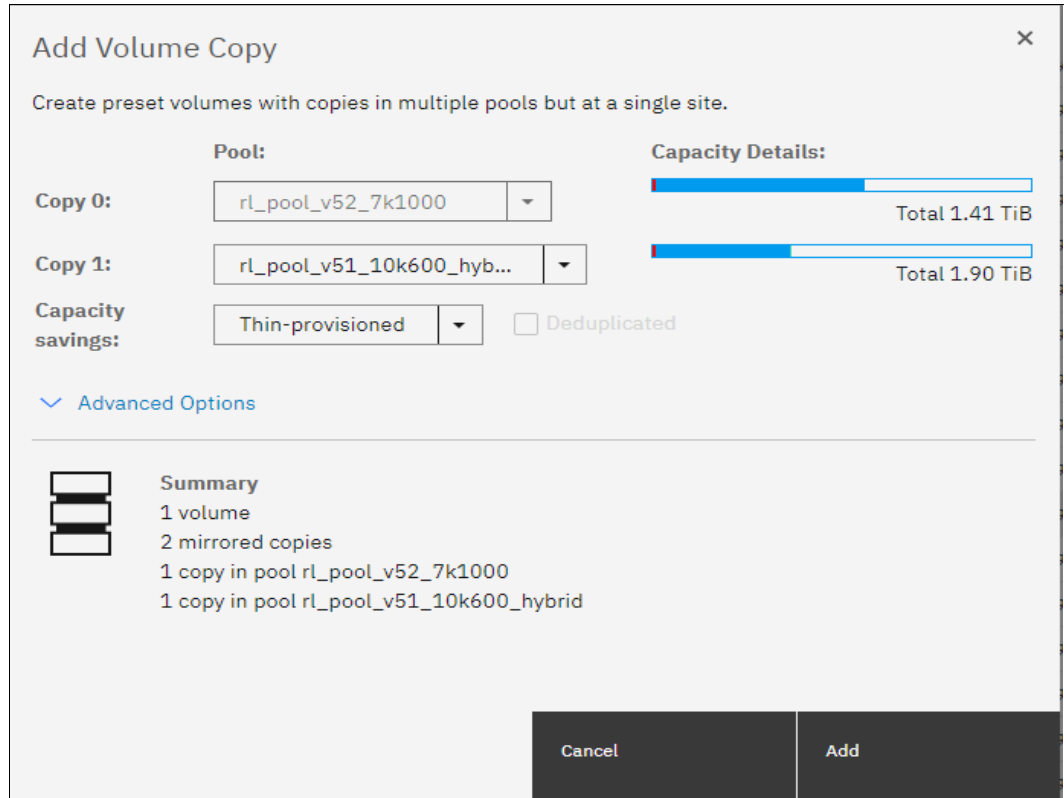

Figure 9-21 Add Volume Copy dialog
1. To create a second copy, right-click the source volume and choose **Add Volume Copy**, as shown in Figure 9-21. Choose the target pool of the migration for the second copy and select the capacity savings.